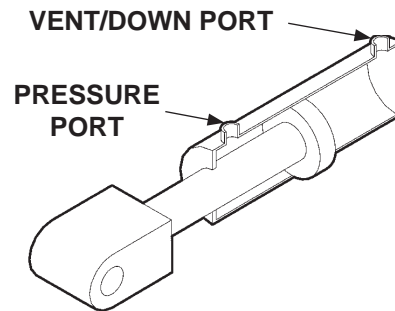

FIG. 68-1
5. Check the hydraulic cylinder. With the platform on the ground, remove the breather plug or vent line from the vent/down port of the cylinder (**FIG. 68-1**). Raise the platform even with the bed. Allow pump motor to run two seconds more while you watch for hydraulic fluid at the vent/down port. A few drops of hydraulic fluid escaping the vent/down port is normal; however, if it streams from the vent/down port, piston seals are worn. Replace seals.